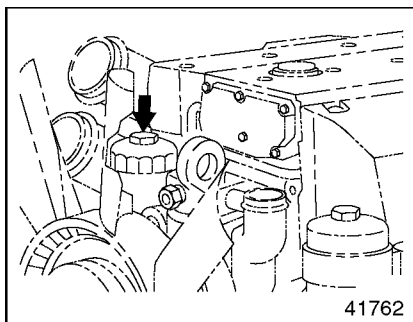

Figure 34 Oil Filter Cap
2. Using a 36-mm socket, unscrew the oil filter cap and allow the oil to drain out of the housing. See Figure 34.